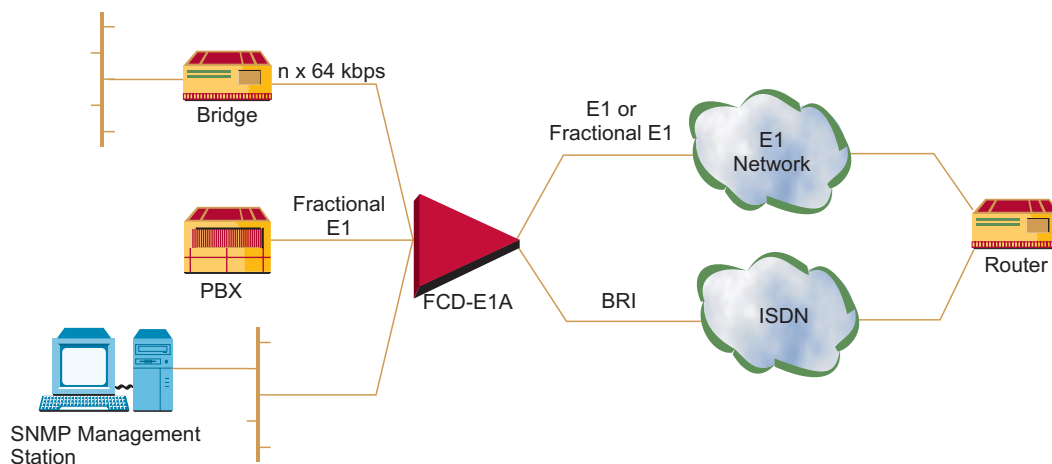

Figure 2. Connection of LAN Traffic together with PBX Traffic to E1 Network
- FCD-E1A is an access unit for E1 or Fractional E1 services. It can be used as a rate and interface converter or as an integrating multiplexer for E1 and Fractional E1 services (see Figure 2).